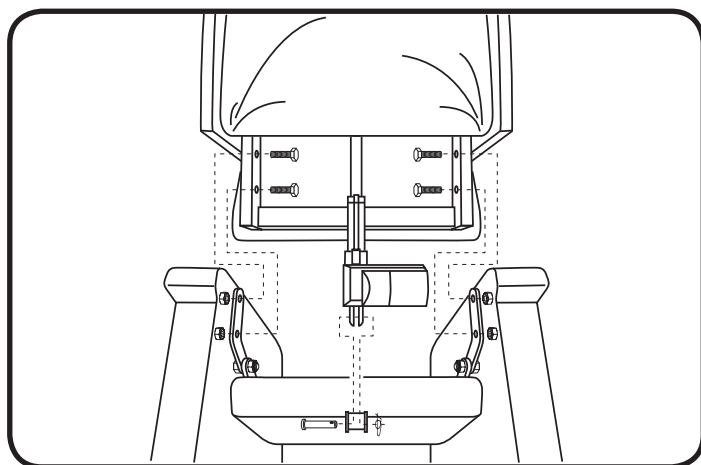

Figure 4.1 Power Lift Recliner Assembly
2. With the pillow side of the chair-back and the power lift recliner armrests both facing the same forward position, slide the bracket of the chair-back over the bracket on the chair base, aligning the holes in both brackets. Insert the 4 bolts into the bracket holes (**Fig. 4.1**).